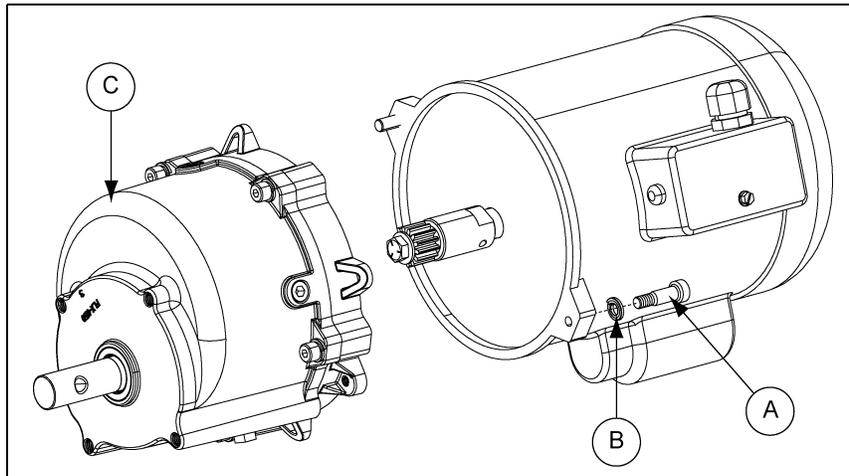

Figure 5AA
1. Un-install the gearbox (C) from the motor by removing the bolts (A) and washers (B). *(See Figure 5AA.)*